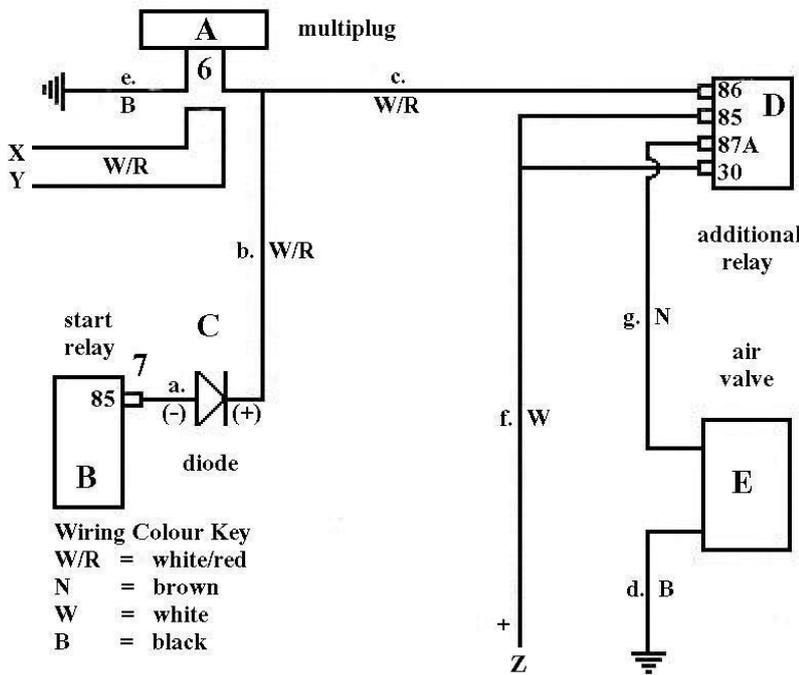

Fig.2
6. Locate gearbox/main harness multiplug (A in fig. 2) situated at N/S bulkhead. Remove white/red leads from the main harness connector (X & Y in fig. 2). Join together and insulate joint.
7. At start relay situated in O/S front wing valance, (B in fig. 2) disconnect and tie back to harness the black wire connected to terminal 85 (86 on some models) of the start relay.
White/red (W/R in fig. 2):
- a. Vacated terminal (85) of start relay (B in fig.2) to negative (-) terminal of diode (C in fig. 2).
- b. One vacated terminal of multi-plug (A in fig. 2) to positive (+) terminal of diode (C in fig. 2).
- c. The same terminal as in b. to terminal 86 of additional relay (D in fig 2).
Black (B in fig. 2):
- d. Either terminal of air valve (E in fig. 2) to adjacent earth.
- e. Remaining vacated terminal of multi-plug (A in fig. 2) to any adjacent earth.
White (W in fig. 2):
- f. Ignition switch positive (+) feed at coil (Z in fig. 2) to terminals 30 & 85 of additional relay (D in fig. 2).
Brown (N in fig. 2):
g. Terminal 87A of additional relay (D in fig. 2) to remaining terminal of air valve (E in fig. 2).